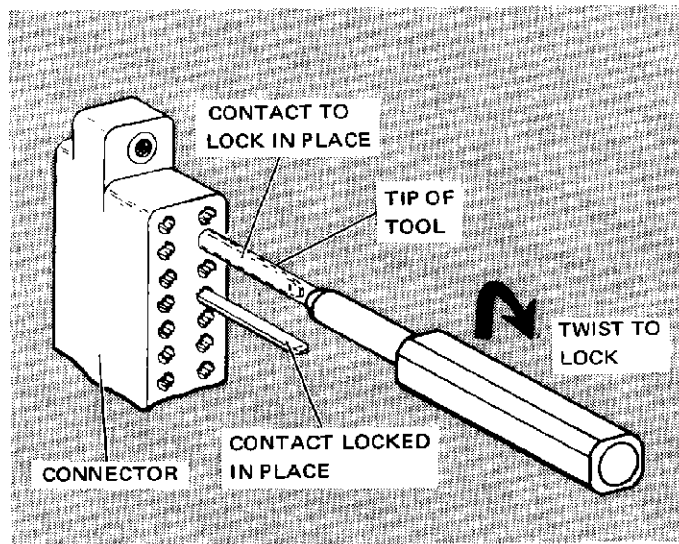

Figure 6
- Slip tip of tool over contact and twist contact clockwise 90° to lock it in position. See Figure 6.